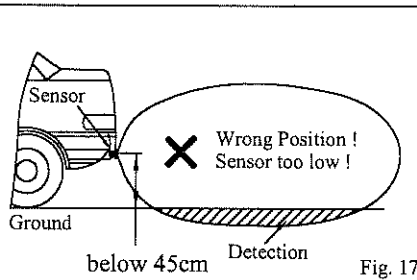
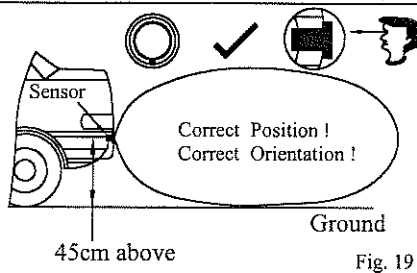

Fig. 17
Fig. 19
For Fig. 17, 18 & 20. False alarm will occur if the sensors are installed lower than 45cm causing the sound wave to detect the ground.
(Fig. 17 & Fig.19)
**Important !** Ensure that the sensors are mounted at the correct position. The dot mark of the sensor should always be in the bottom position as shown in Fig. 19
**Important !** The preset of the sensitivity for the sensor height is 45cm above the ground. To avoid false alarm, please install the sensors above 45cm from ground. (Fig. 17 & Fig.19)